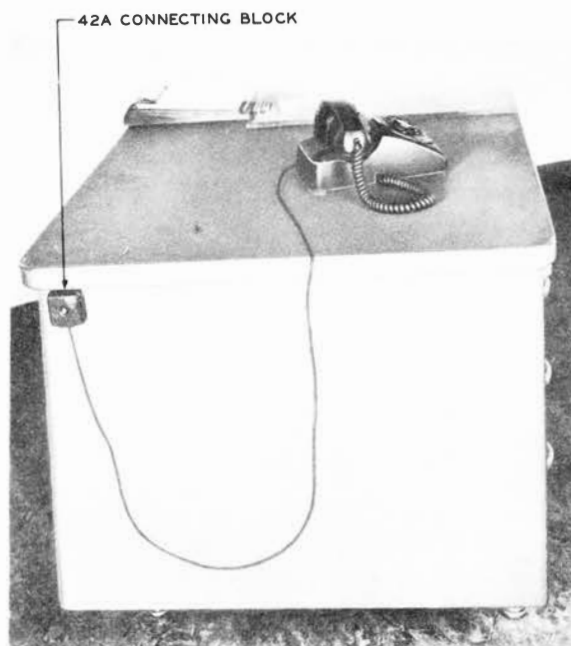

Fig. 25 — Installation of 500-type Telephone Set
- Locate connecting block so cord is kept clear of floor (see Fig. 25).